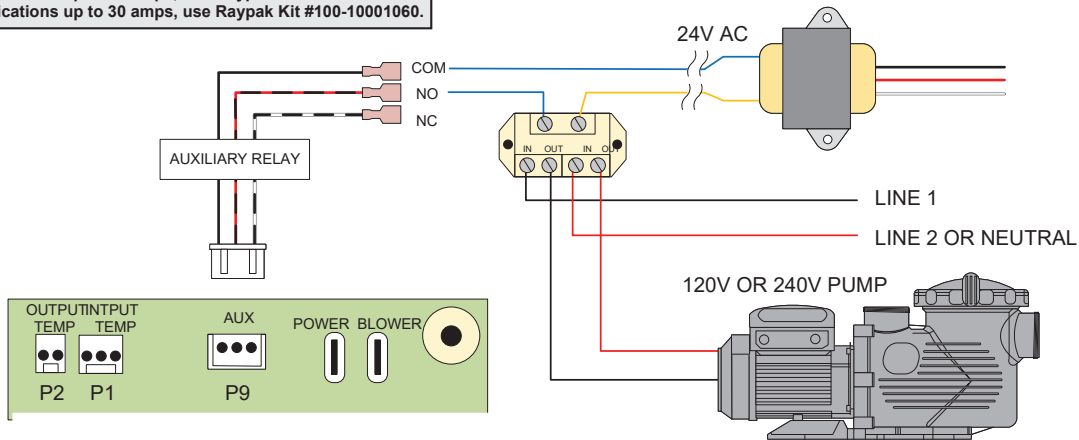

Figure 148. High Power Applications with Field-Supplied Relay
**CAUTION:** Load on P9 must not exceed 3 Amps. If the load is larger than 3 Amps, use P9 auxiliary output to drive a field-installed contactor. See Figure 148.